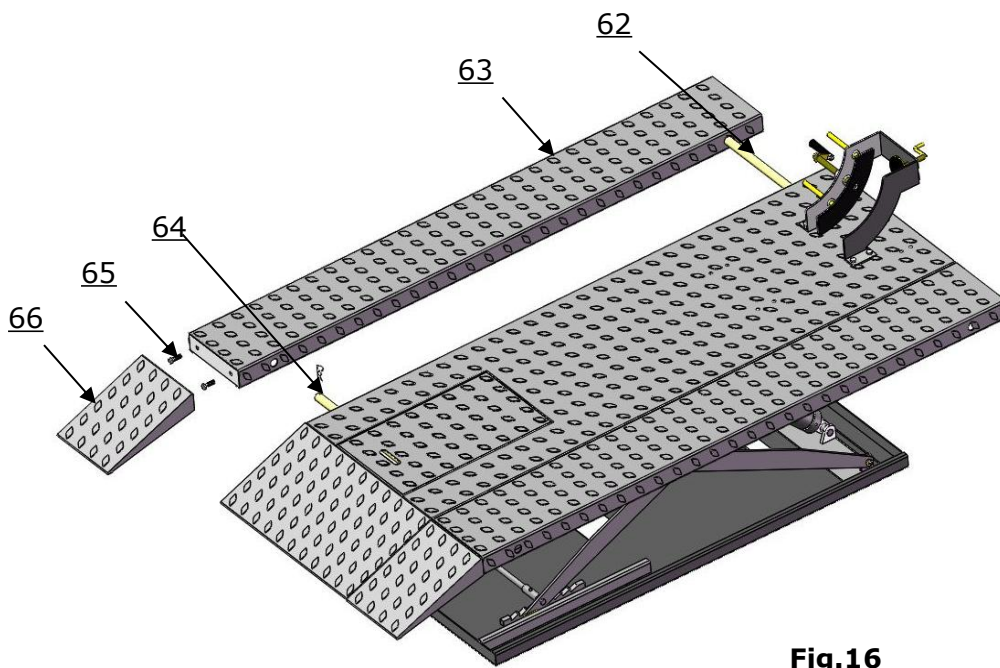

Fig.16
G. Install Optional Width Extension Kit(MC001). See Fig.16